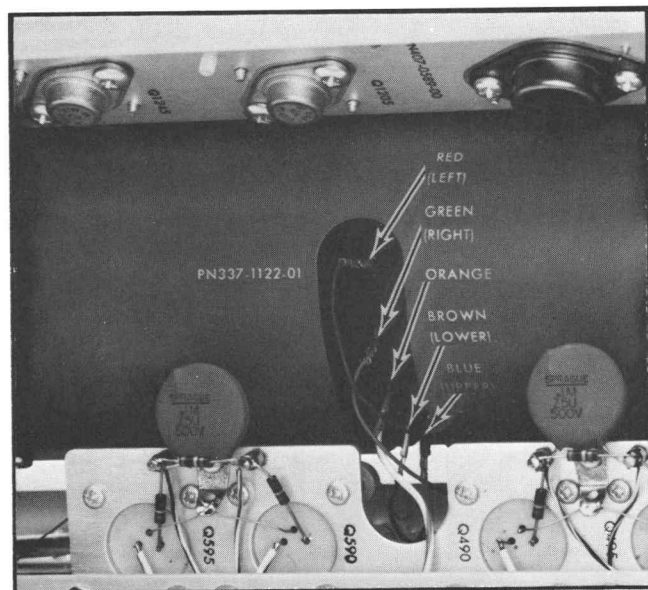

Fig. 4-3. Wiring color code for CRT deflection plate pins.
4. Disconnect the deflection plate connectors and target clip. Be careful not to bend the deflection plate pins. Fig. 4-3 shows the wiring color code for the deflection plate connectors.